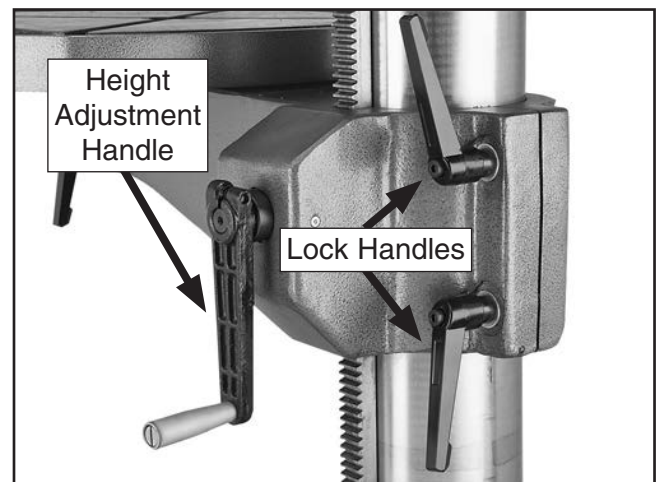

Figure 21. Column Release and Height Adjustment Handles.
2. Loosen the release handles shown in **Figure 21**.
3. Adjust the table height by rotating the height adjustment handle (see **Figure 21**).
2. Slightly loosen the lock handles (see **Figure 21**).